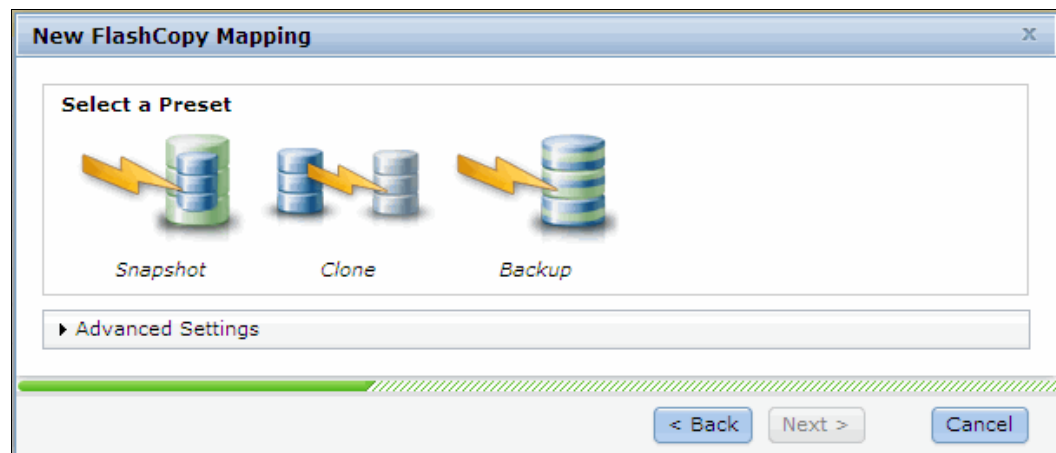

Figure 10-48 Choose snapshot preset
5. Click **Next** and you see a snapshot preset choice, as shown in Figure 10-48.